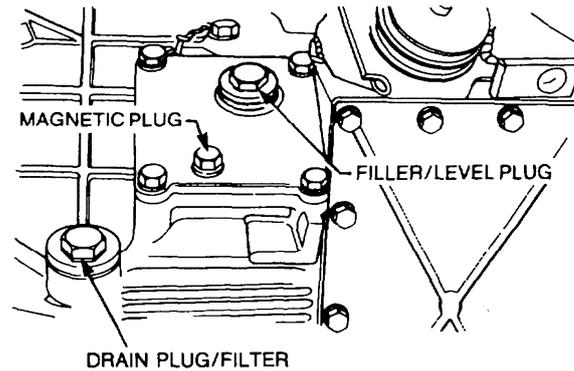

Figure 62 Transmission Filter Removal
- a. Remove the filler/level plug from the left-hand side of the transmission (Figure 62).